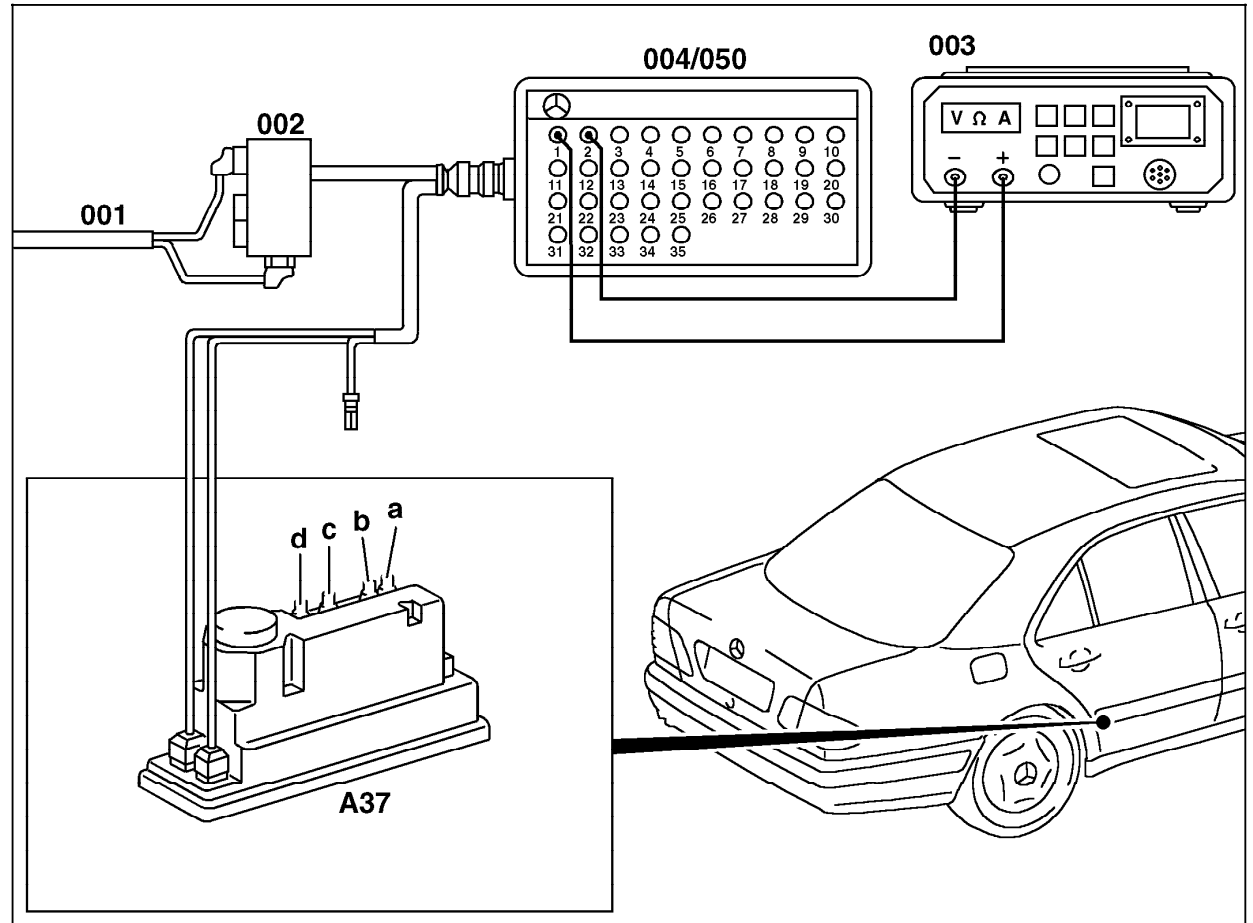

Figure 1
6. Connect socket box with test cable according to connection diagram, see 22, Figure 1.